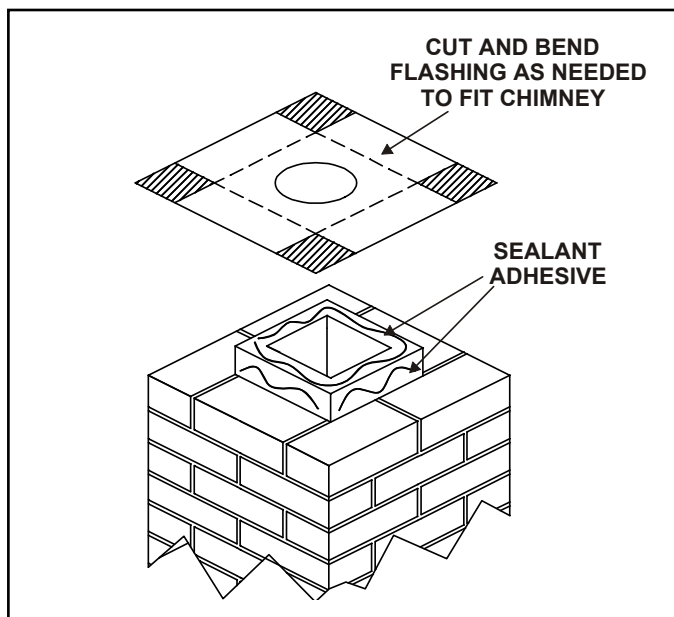

Figure 5.6
- Trim chimney top plate to minimize excess overhang or bend over flue tile. See Figure 5.6.